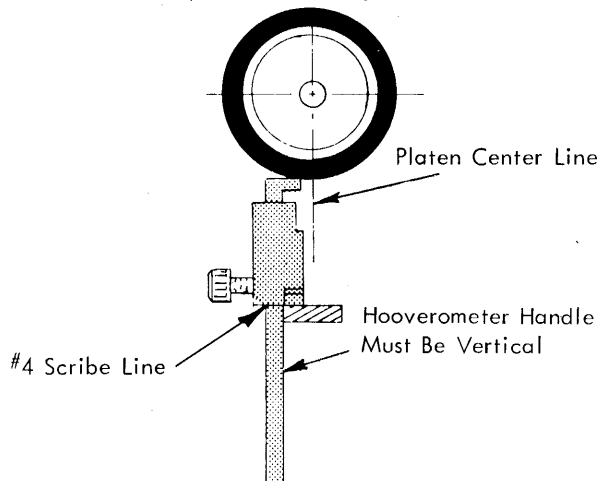

FIGURE 134. Platen Height Adjustment
- a. Platen Height - With the head of the Hoovermeter set at the #4 scribe line, the platen should just touch the base of the handle when the head is resting on the escapement rack (Fig. 134).